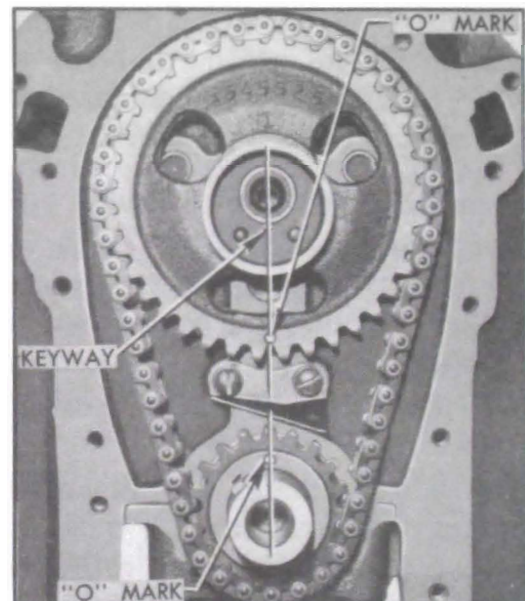

Figure 2-27—Timing Chain and Sprockets Properly Installed
4. If there has been doubt about the valve timing, turn crankshaft until the camshaft sprocket keyway is straight down toward the crankshaft and the "0" timing marks on both sprockets are toward each other and in line with shaft centers. See figure 2-27.
7. When ready to install timing chain, turn crankshaft until Nos. 1 and 4 pistons are on top dead center. Turn camshaft so that the sprocket key points straight down toward crankshaft. See figure 2-27.
stamped on front faces of sprockets are nearest each other and aligned between the sprocket hubs. Install sprockets with chain on the two shafts. See figure 2-27.